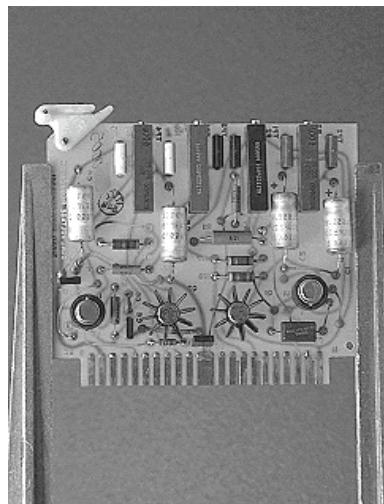
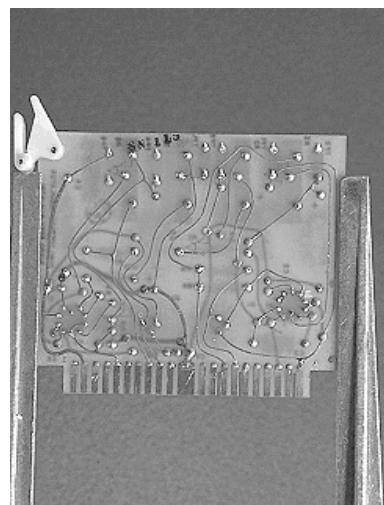

Figure 1-37.—Printed circuit board (pcb).
Figure 1-38.—Printed circuit board (pcb).
**LEVEL I.**—This level is normally associated with small modules or submodules that are attached to circuit cards or mother boards. The analog-to-digital (A/D) converter module is a device that converts a signal that is a function of a continuous variable (like a sine wave) into a representative number sequence in digital form. The A/D converter in figure 1-37 is a typical Level I component. At this level of
**LEVEL II.**—Level II packaging is composed of large printed circuit boards and/or cards (mother boards). Typical units of this level are shown in figures 1-37 and 1-38. In figure 1-38 the card measures 15 × 5.25 inches. The large dual inline packages (DIPs) are 2.25 inches x 0.75 inch. Other DIPs on the pcb are much smaller. Interconnections are shown between DIPs. You should also be able to locate a few discrete components. Repair consists of removing the faulty DIP or discrete component from the pcb and replacing it with a new part. Then the pcb is placed back into service. The removed part may be a level 0 or I part and would be handled as described in those sections. In some cases, the entire pcb should be replaced.
Printed circuit boards were discussed earlier in topic 1. You should recall that a conventional pcb consists of glass-epoxy insulating base on which the interconnecting pattern has been etched. The board may be single- or double-sided, depending on the number of components mounted on it. Figures 1-37 and 1-38 are examples of conventional printed circuit boards.